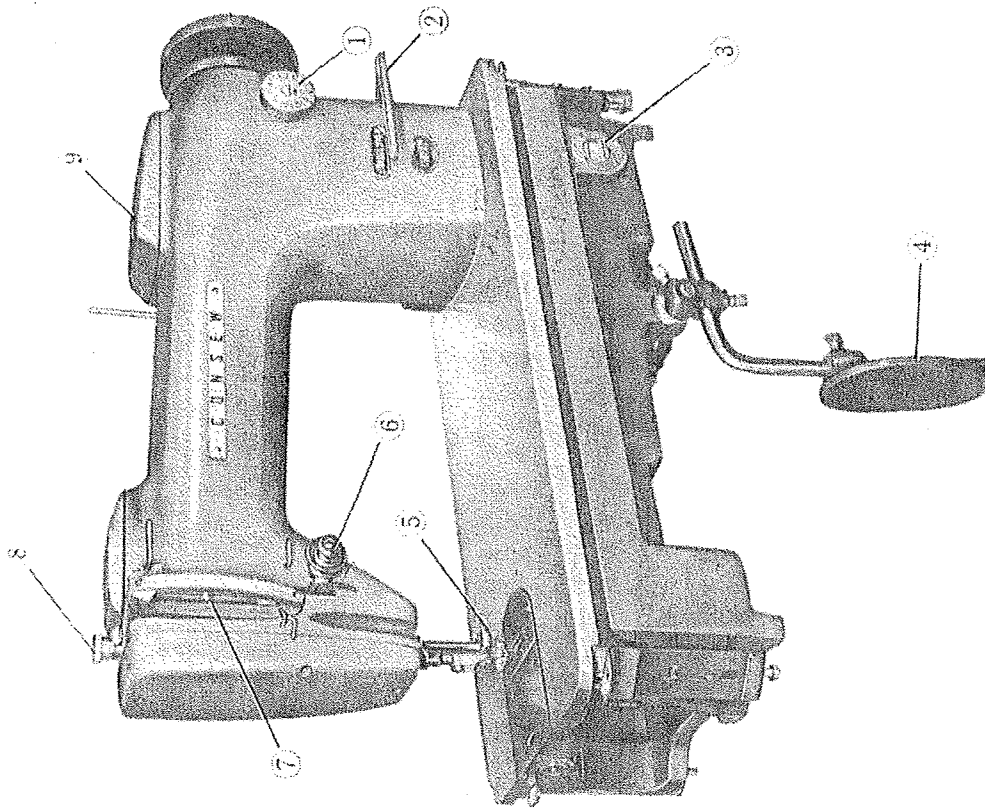

Fig. 1
Oiling of the operating parts of Model 210 machine is entirely automatic. Oil is contained in the oil pan at the bottom of the machine head and is circulated from there to all parts which require lubrication and cooling. The oil pan should be filled with good quality sewing machine oil, either ordinary or stainless type, of a grade similar to SAE10, to the level indicated by the word "High" inside the pan. The upper red line of the oil level indicator (2), (Fig. 1) shows the corresponding oil level. Check oil level daily and never allow it to fall below the lower red line of the oil level indicator or below the "low" mark inside the oil pan. Oil is filled directly into the oil pan when the head is tilted back. Total oil capacity is approximately $1\frac{1}{2}$ pints (24 fl. ounces.)